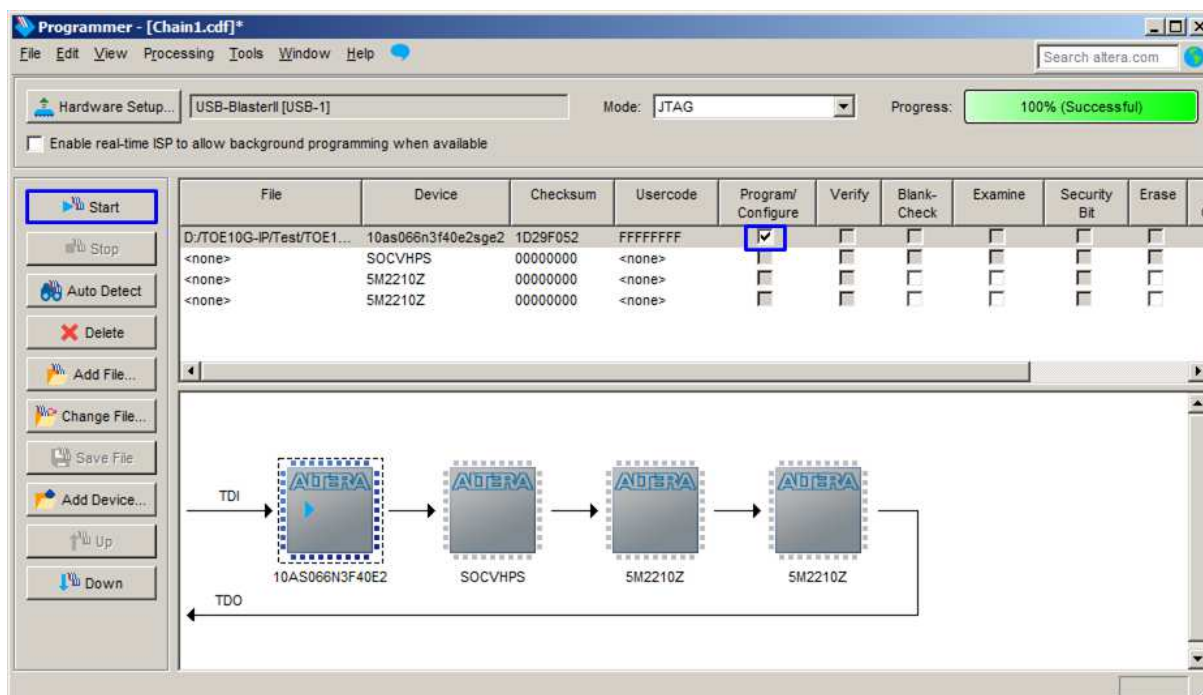

Figure 3-5 Program SOF File
- Open Quartus Programmer, select SOF file, and program file to FPGA development board, as shown in Figure 3-5.